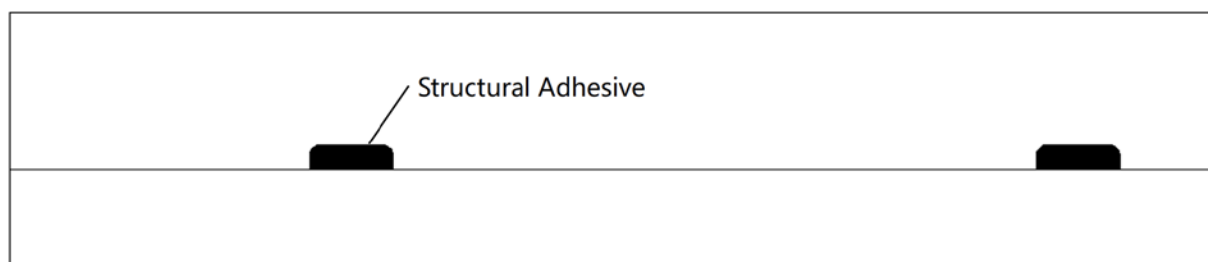

Figure 11
- ③ The cross-section of the structural adhesive should be a semi-circular shape with a width of more than 18mm and a height of more than 6mm. (Figure 11)